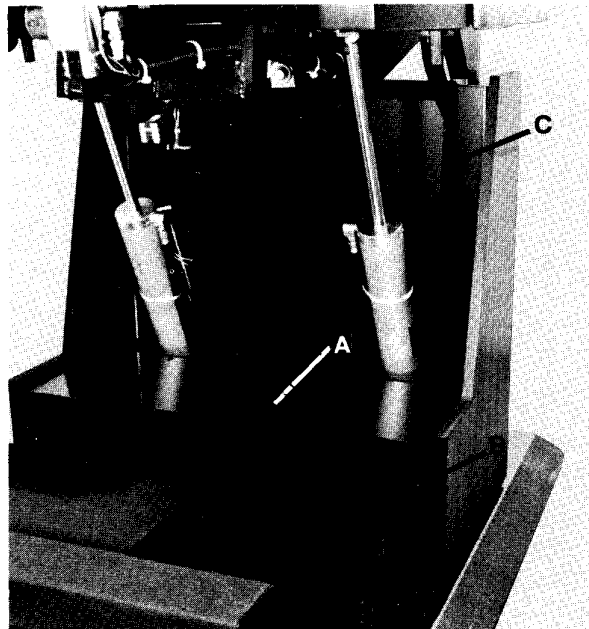

Fig. 19
- 2) Remove panel assembly from chair by removing (2) screws, Item C, Fig. 19.
- 3) Remove panel from shroud by removing (6) screws located on the back of the panel assembly.
- 4) Place new panel on shroud, align holes, and install (6) #6-32x $\frac{3}{8}$ " screws to secure the panel to the shroud.
- 5) Place panel assembly in position on chair, align holes, and install (2) #10-24x $\frac{3}{8}$ " screws, Item C, Fig. 19.
The motor cover is in two sections. The top section, Item A, Fig. 19 has to be removed for any servicing on the motor/pump. The back section, Item B, Fig. 41 should be removed only as required.
- 1) Remove top section of motor cover by removing (8) screws, Item B, Fig. 19 and sliding cover up and out.
- 2) If required, remove back section of motor cover by removing (6) screws located along bottom flange and lifting cover up and out.
- 3) Replace back section of motor cover by placing cover in position, aligning holes, and installing (6) #10-24x $\frac{3}{8}$ " screws through the bottom flange.
- 4) Replace top section of motor cover by placing cover in position, aligning holes, and installing (8) #6x $\frac{3}{8}$ " screws, Item B, Fig. 19.
- 3) Have the assistant raise the seat and seat cylinder enabling the top section of the motor cover to be removed by removing (8) screws, Item B, Fig. 19 and sliding the cover up and out.
- 4) If required, remove back section of motor cover by removing (6) screws located along bottom flange and lifting cover up and out.
- 8) Replace top section of motor cover by placing cover in position, aligning holes, and installing (8) #6x $\frac{3}{8}$ " screws, Item B, Fig. 19.
- 6) Remove top section of motor cover by removing (8) screws, Item B, Fig. 19 and sliding cover up and out.
- 7) If required, remove back section of motor cover by removing (6) screws located on the bottom flange and lifting cover up and out.
- 8) Replace back section of motor cover by placing cover in position, aligning holes, and installing (6) #10-24x $\frac{3}{8}$ " screws through the bottom flange.
- 9) Replace top section of motor cover by placing cover in position, aligning holes, and installing (8) #6x $\frac{3}{8}$ " screws, Item B, Fig. 19.